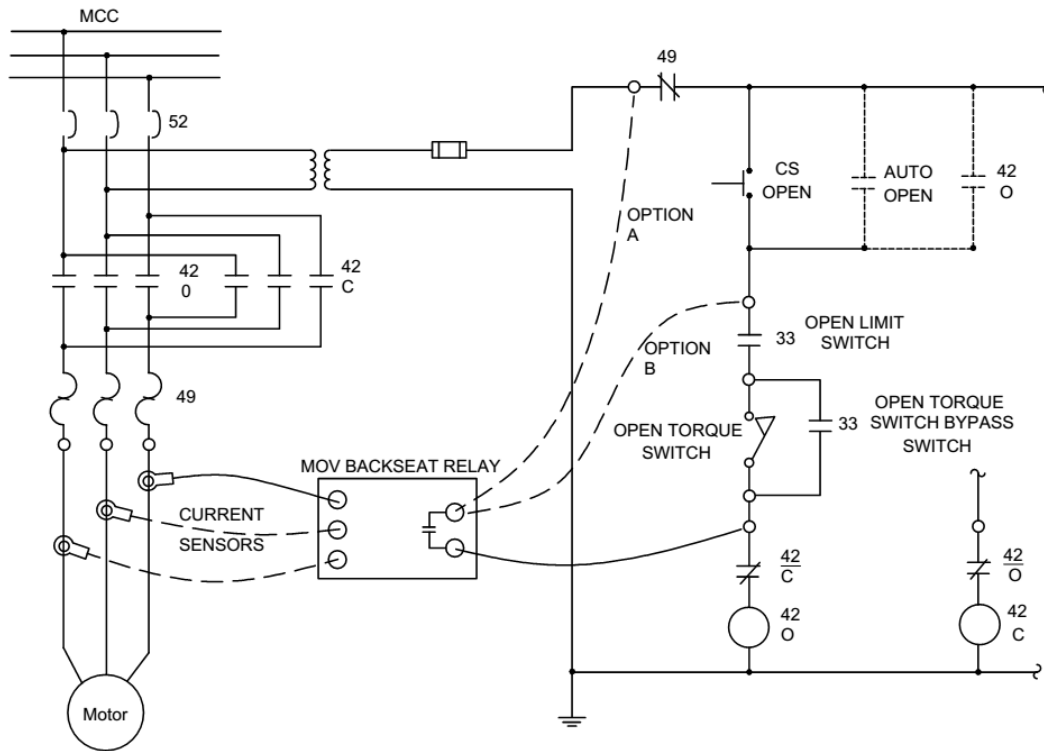

Figure 2: Typical Connection Diagram for 3 Phase AC
- 5.3 Connect test leads from the yellow relay contact jacks to parallel with the limit switches in the motor control cabinet. Typical connection points are shown in Figure 2. Option A gives full control to the relay. With option B, the relay just bypasses the limit switches.